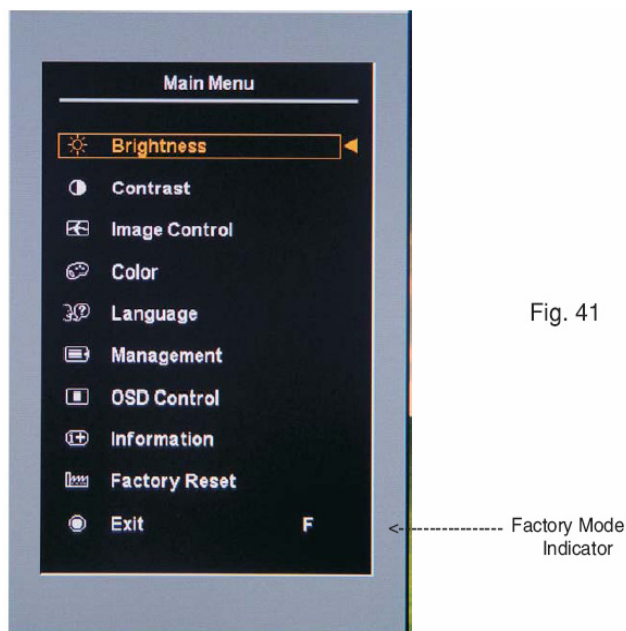

Fig. 41
2). [Push "Auto Adjust " and "+"(plus) and hold them at the same time] + [Press power "Power " button untill comes out "Windows screen"] => then release all button, then press "Menu" button, wait until the OSD menu with Character "F" (below OSD menu) come on the Screen of the monitor (see Fig. 41).